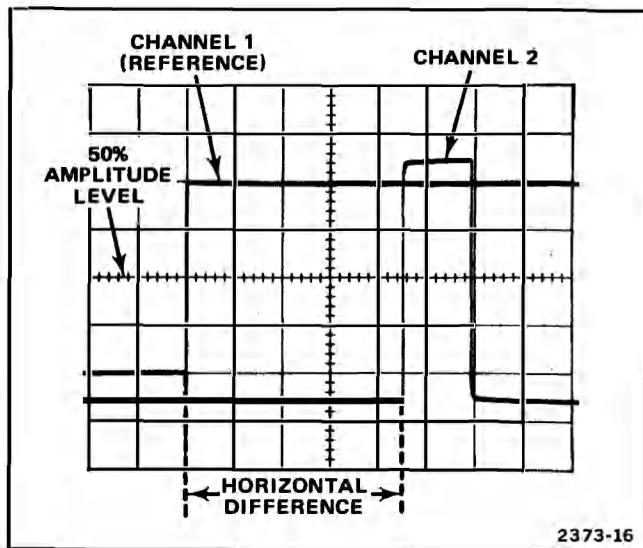

Fig. 16. Measuring time difference between two pulses.
9. Measure horizontal difference between Channel 1 waveform and Channel 2 waveform (see Fig. 16).
EXAMPLE: Assume that SEC/DIV switch is set to 50 μ s, and horizontal difference between waveforms is 4.5 divisions (see Fig. 16).